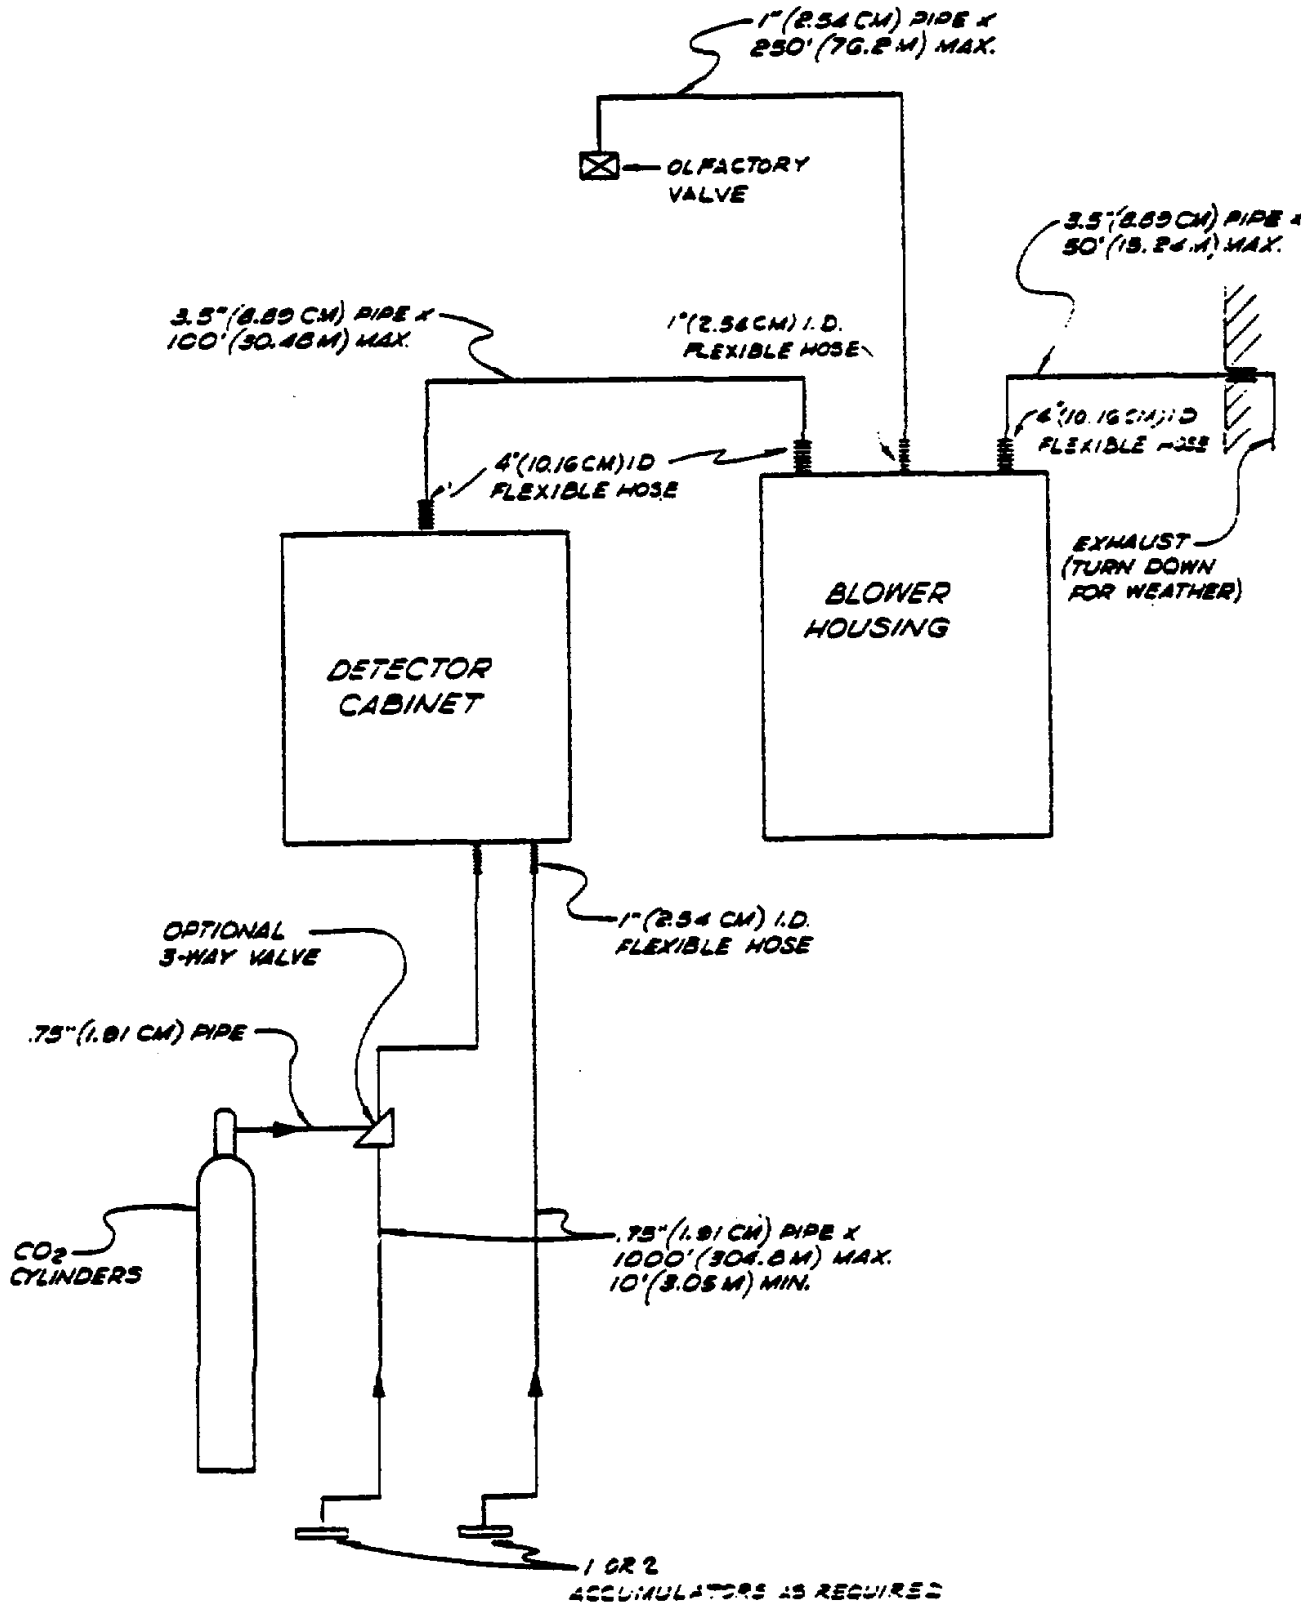

Figure 4-1. Air Flow Diagram, 1-24 Lines, SKC-148140
- 4.4 The suction blower cabinet may be installed anywhere convenient, within the limitations specified for the interconnecting piping in Table 4-1 and the air flow diagrams. See Figures 4-1 and 4-2.